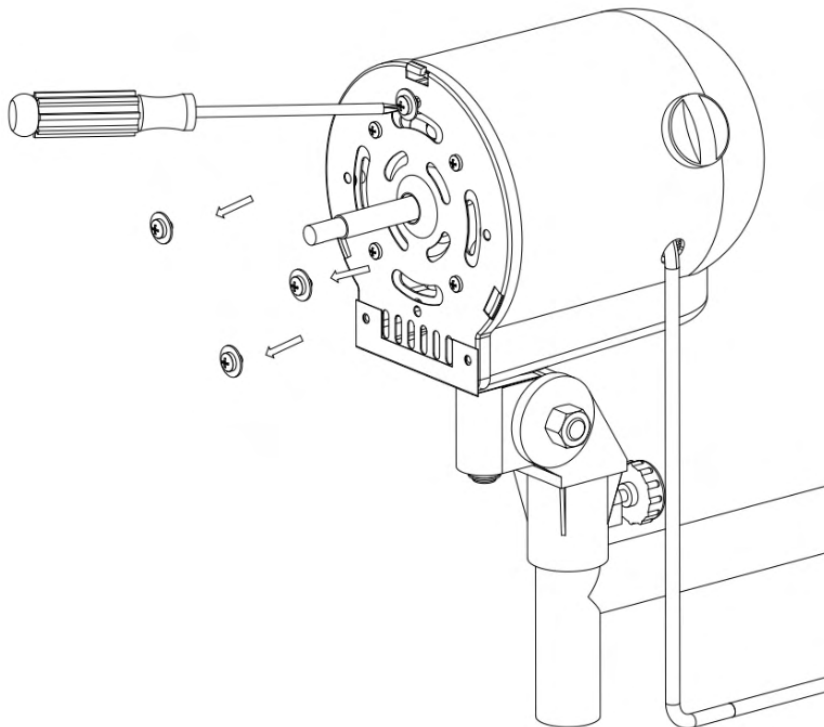

Fig. 2
2. Remove the screws of rear safety grill from the fan assembly. (Fig.2)